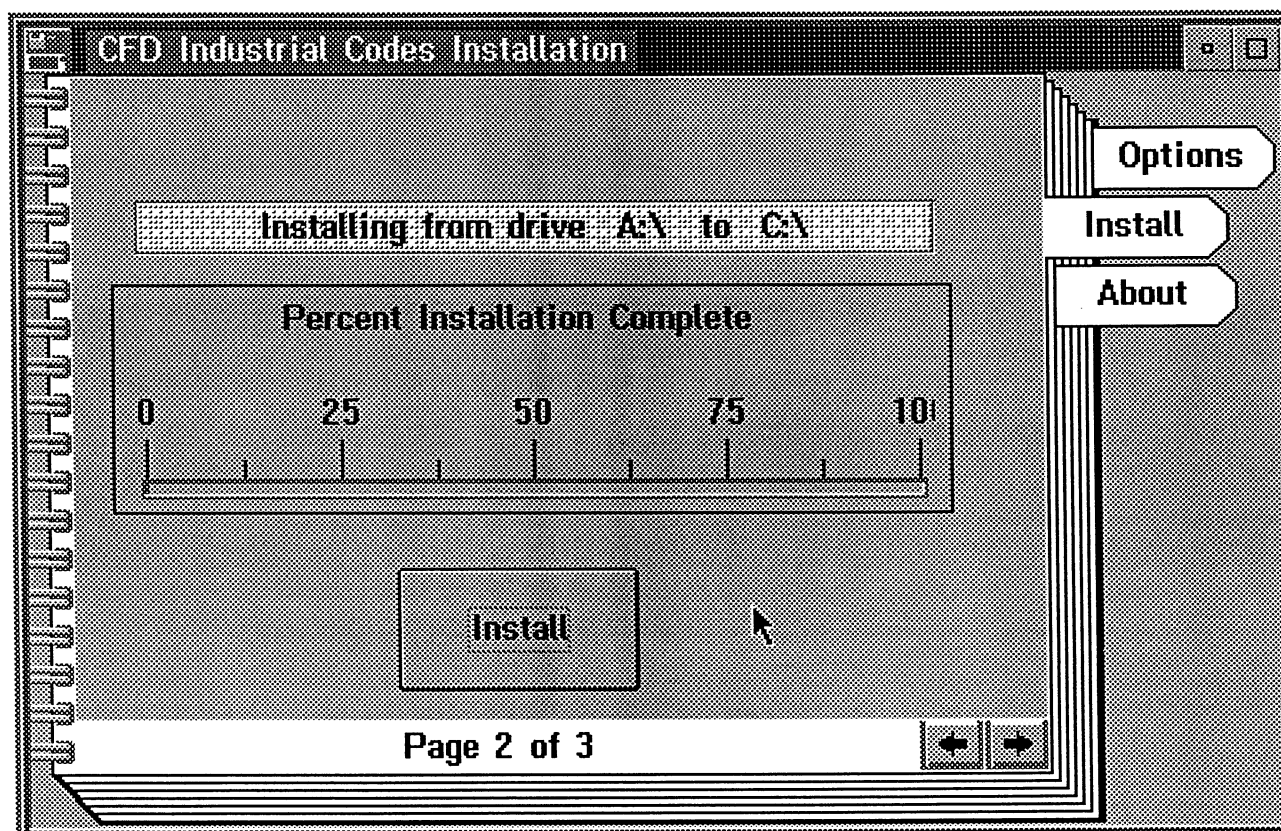

Figure 2: Installation Program - Install Page
- ☐ Go to the Install page shown in Figure 2 and click on the Install button to begin installation.